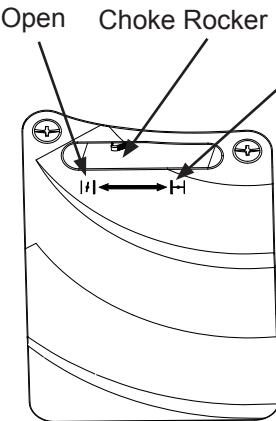
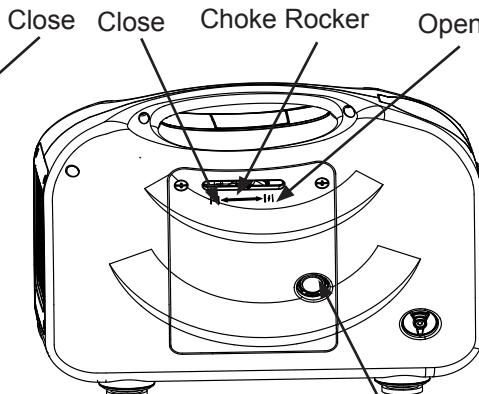

Fig. 4.2
Fig. 4.3 Primer Bulb
2. If the engine is cold, move the choke rocker to the CLOSE position. Refer to Fig. 4.2 for HY1000Si and Fig. 4.3 for HY2000Si
The primer bulb is used for bringing small amounts of gasoline to the throat opening of the carburetor. The problem is that sometimes generator cannot start because the fuel cannot reach the carburetor (Refer to Fig. 4.3)